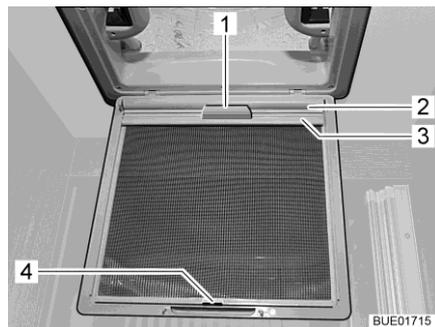

Fig. 93 Blind (skylight)
- Using the handle (Fig. 93,1), pull out the blind (Fig. 93,2) and hook the retainer (Fig. 93,3) into the hook (Fig. 93,4) on the insect screen.
- Release the retainer (Fig. 93,3) from the hook (Fig. 93,4) and, using the handle (Fig. 93,1), slowly return the blind (Fig. 93,2).